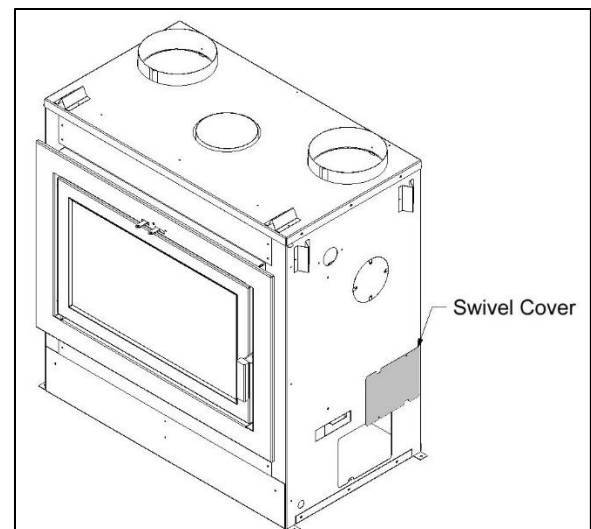

Figure 3-14: Intake Swivel Cover Kept Open for Clean Face Installations
6. Secure the Intake Swivel Covers on the bottom sides of the unit to the **open** position (Figure 3-14).